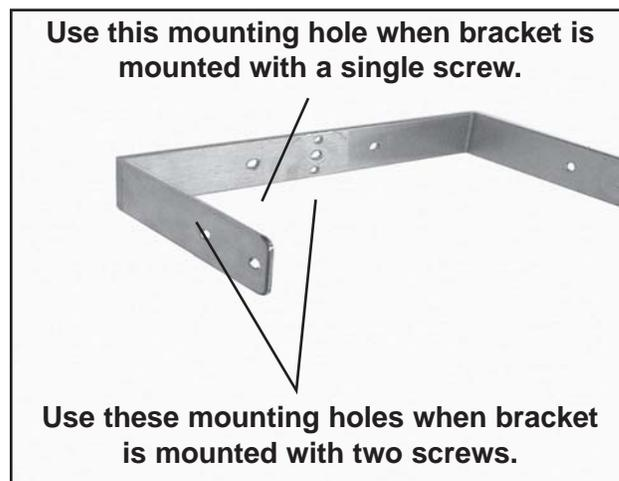

Figure 36. Console Bracket Mounting Holes
3. Fasten the new bracket to the wall or mounting column with the screw(s) removed in *Step 2* (Figure 36).